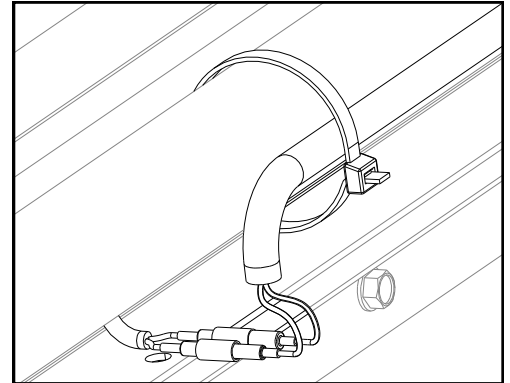

Fig. 3.1
- 3.1 Pull wire up to rear work light and plug the bullet connectors into the rear work light. (See Figure 3.1)